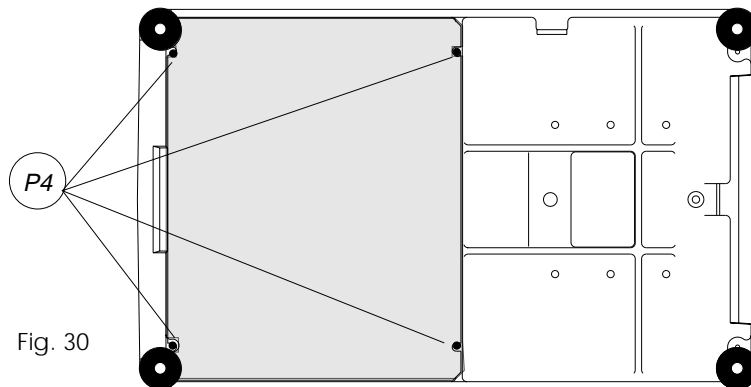

Fig. 30
1. turn off the master switch (P) and remove the mains plug.
2. carefully turn the machine over onto its right-hand side (Fig.30) (vertical carriage lever side).
3. loosen the screws (P4) holding the bottom plate to the base and remove the plate (Fig.30).